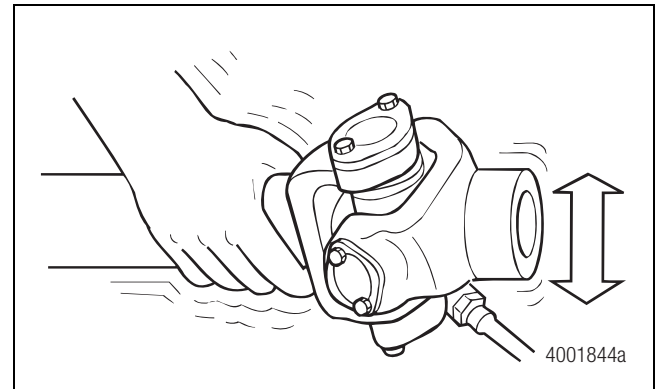

Figure 5.2
1. Move the assembly UP-AND-DOWN or SIDE-TO-SIDE while you apply grease gun pressure. Figure 5.2.